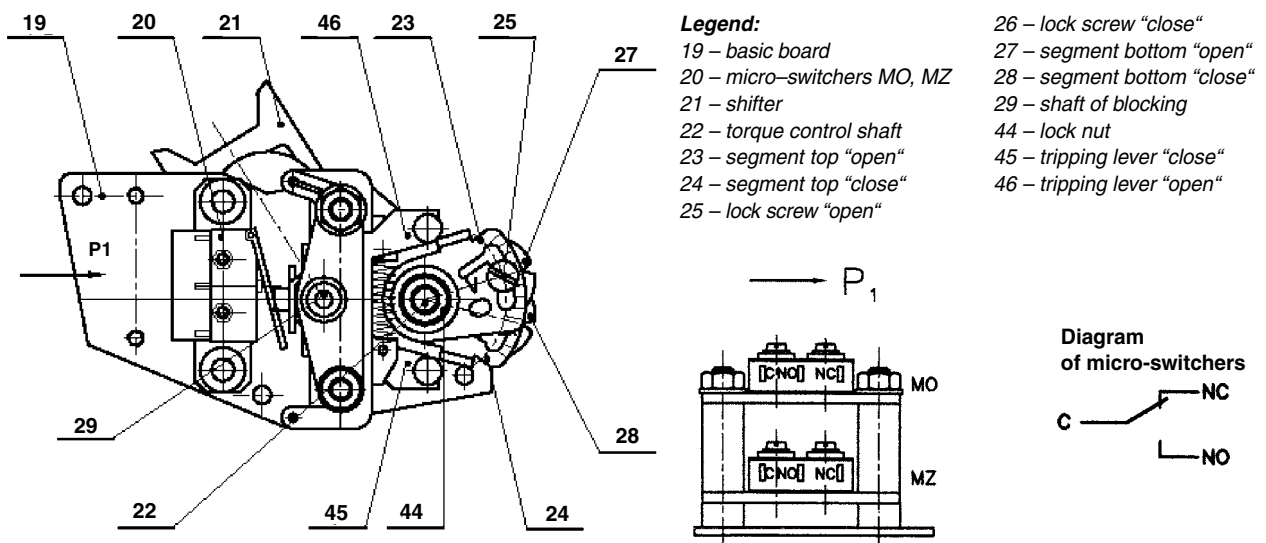

Fig. 2 - Torque-limit switching unit
- Fig. 2 is, as an independent assembly unit, composed of basic board 19 carrying micro-switches 20 and, at the same time, forms bearings for the shaft of torque control 22 and the shaft of blocking 29.
In setting different tripping torque than that to which the unit was set in the factory, the procedure is as follows: release lock nut 44 (see Fig. 2) and particular lock screw -26- (for direction “close”) or 25 (for direction “open”). Then, insert a screwdriver into the slot in top segment -24- or -23- and turn the segment until the slot in segment 28 or 27 matches with particular point on the scale. This point is determined by dividing the difference between the maximum and minimum adjustable torque in Nm by the number of divisions between the mark of the maximum and minimum torque. The result shows which part of the tripping torque (in Nm) corresponds to one division of the scale; interpolation is used for determining the point on the scale which the slot in segment 28 or 27 should tally with.